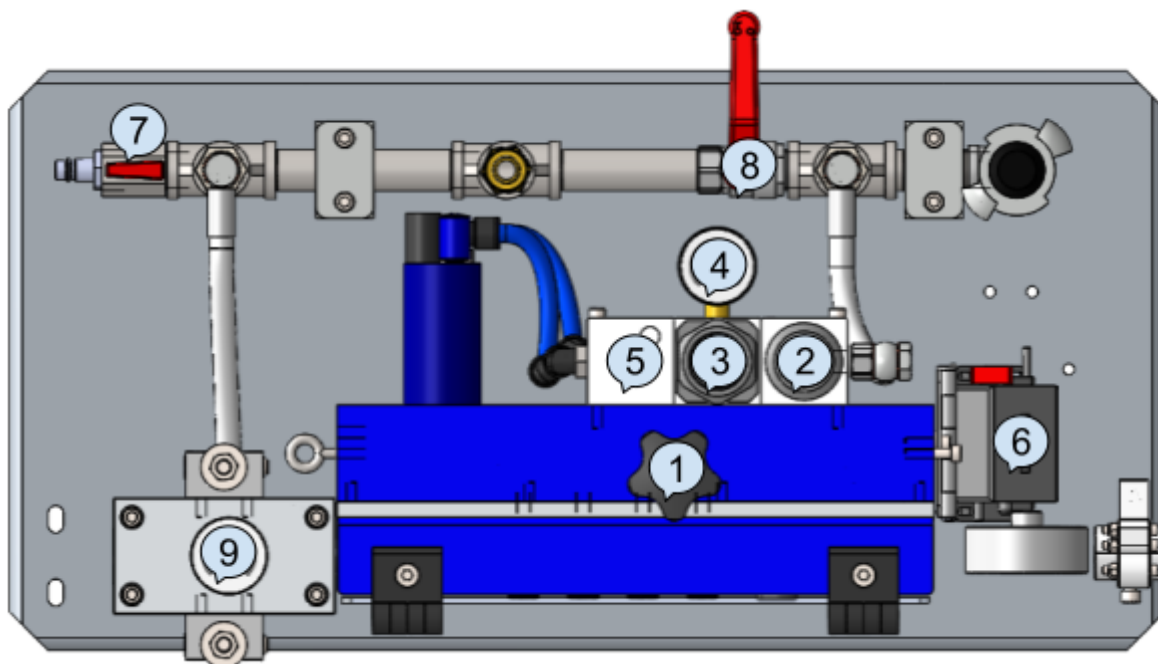

Fig. 8 View of the device from above
- Use the knob to lift the upper drive belt (1 Fig. 8).
- Reset the cable length measurement counter (6 fig. 8)
- Both drive motors are started by pressing the gray valve (2 fig. 8).
- Use the regulator knob (3 fig. 8) to set the required pressure and, at the same time, the speed of the cable feeding. The maximum supply pressure for motors should be determined by carrying out a „**crash test**” for the given type of cable. Working below the
The current value of the air supply pressure to the engines can be read from the pressure gauge next to the regulator. (4 fig. 8)
Make sure that the dropper in the lubricator gives about 1 drop of oil per minute. If necessary, adjust with a small screwdriver from the top of the sight glass (5 fig. 8).
- Use the valve (2 fig. 8) to start the drive motors. The cable will be pushed into the conduit
- turn off the air motors by lifting the gray valve (2 fig. 8),
- close the air supply to the blowing head (8 fig. 8),
- open the vent valve (7 fig. 8)